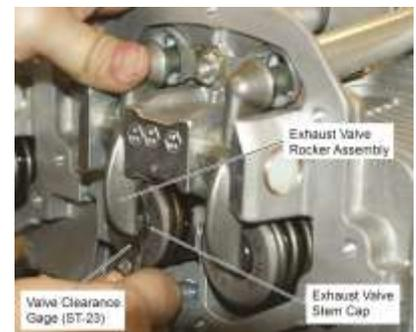

Figure 35
- (b) Use a Valve Clearance Gage (ST-23) (Figure 33) to measure the distance between the end of the valve rocker assembly and the valve stem cap (Figure 35).